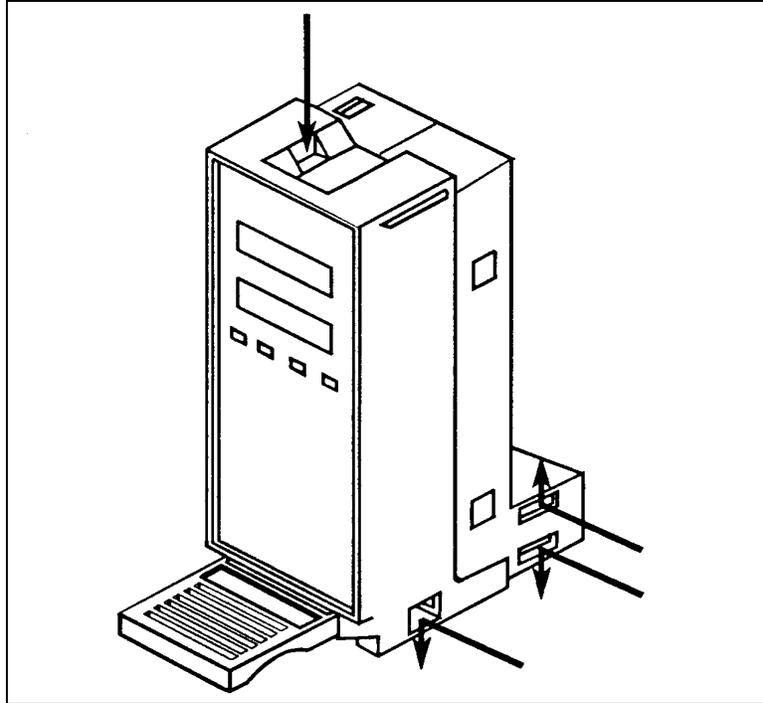

Figure 3-15. Front Panel Assembly Locking Tabs
1. Separate the two halves of the front panel assembly by releasing the four locking tabs with the flat-bladed screwdriver (see figure 3-15).